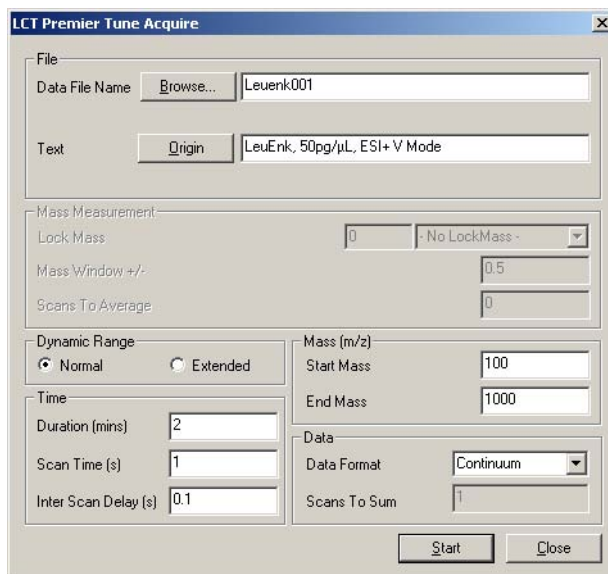

Figure 2-11 LCT Premier Tune Acquire Dialog Box
1. Click Acquire to open the LCT Premier Tune Acquire dialog box opens (Figure 2-11).
2. Set the parameters as shown in Figure 2-11.